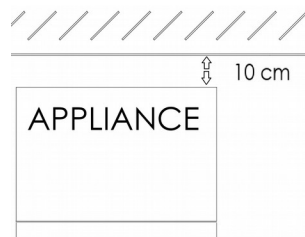

Fig 11. Spacing of the appliance
3.2.e Allow at least **10 cm** of space in front of the engine compartment opening, to improve air circulation for compressor and condenser cooling, as shown in Fig 11.